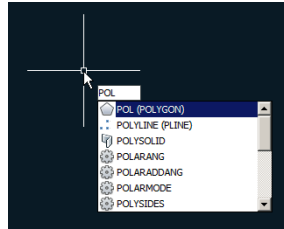

FIGURE 1.15 Command line's AutoComplete feature
11. Type POL, and observe how the AutoComplete feature highlights commands in alphabetical order as you type (see Figure 1.15). Use the arrow keys to move up or down through the list, and press Enter when you find the command for which you are looking, or click its name in the list, instead of typing the entire word.